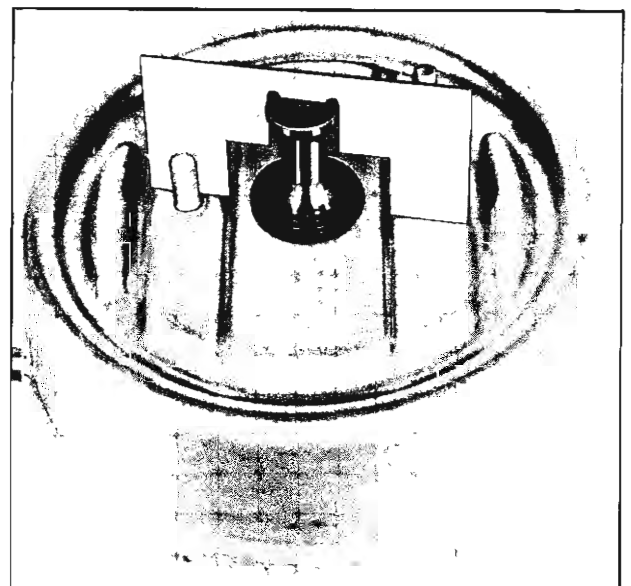

Fig. 53—Checking Shimming Using Tool J-8531
- b. Place Gauge J-8531 over the master cylinder piston, as shown in Figure 53, so that it seats on the housing or shims. If the end of the gauge and end of the piston are flush, no additional shimming will be necessary.
- c. If the piston end rises higher than the gauge dimension, shims must be added until the end of the gauge and the end of the piston are as flush as possible. Never add more than five (5) shims.